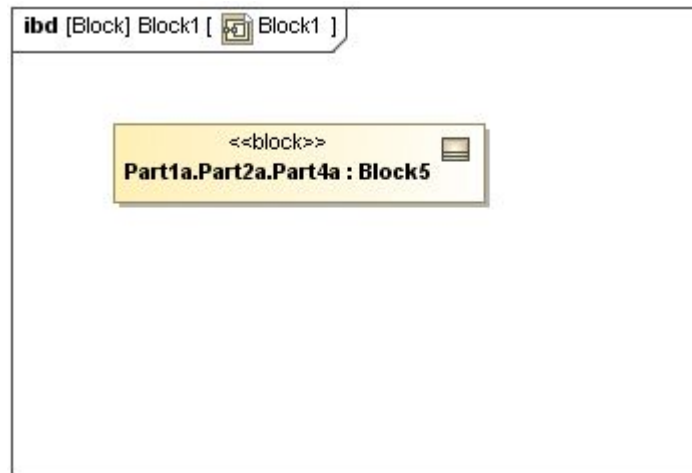

Figure 86 -- IBD of Block1 and the Selected Nested Properties
3. Select a part and click **OK**. If **Part4a** (typed by Block5) is selected, the following part will be displayed (Figure 86).